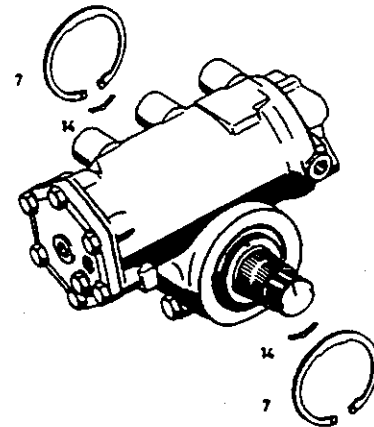

Fig.41
Holding segments (14) must be pressed in until flush (**Fig.41**).